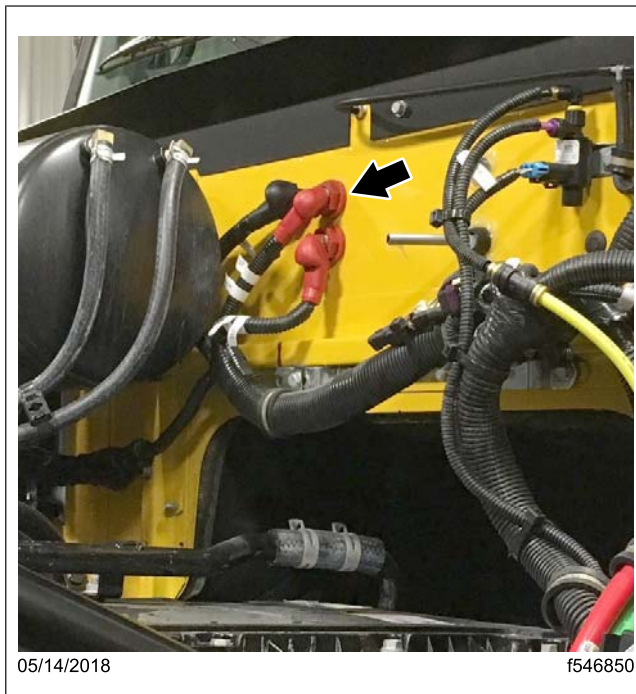

Fig. 1, Bulkhead Connector Location
3. Open the hood and locate the three battery bulkhead connectors on the front wall. See Fig. 1.